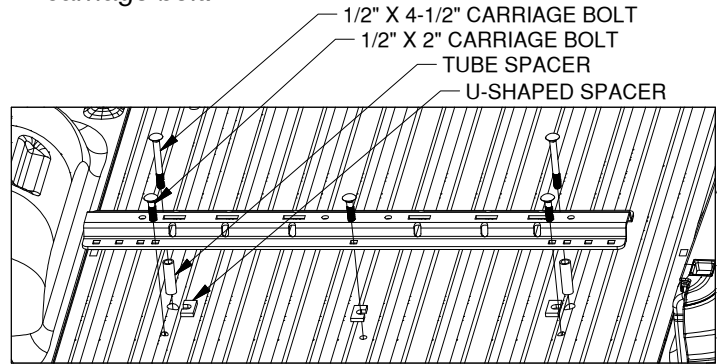

Figure B1: View looking into truck bed from rear of truck.
1. **Install the rear mounting rail.** Place the two tube spacers into the the 7/8" holes. Re-position the rear mounting rail over the drilled holes in the bed. Install two 1/2" X 4 1/2" carriage bolts into the two forward drilled positions (holes over the cross member) and install three 1/2" X 2" carriage bolts through the three rear drilled positions, as shown in Figure B1. Place U-shaped spacers between the bed and the mounting rail. Two spacers (as near as possible) by the 4-1/2" carriage bolts, and one spacer around middle carriage bolt.